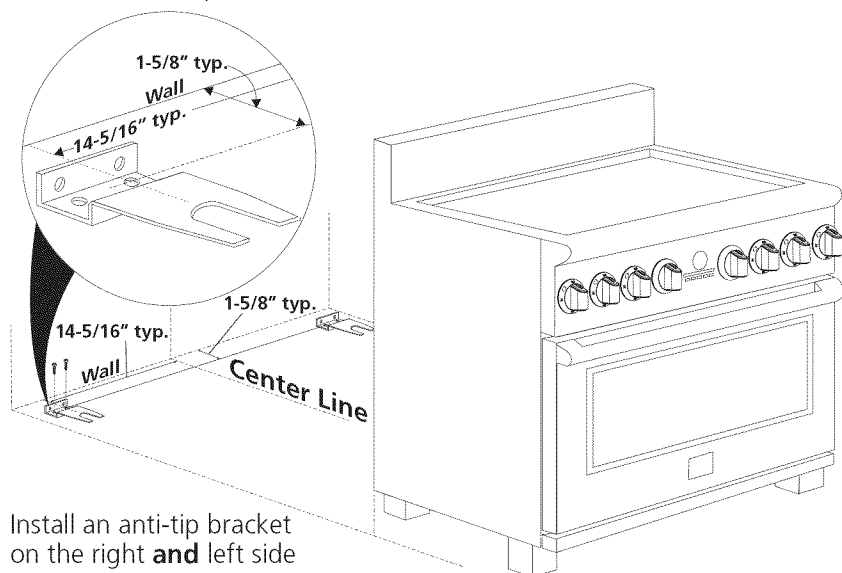

Figure 17
3. Unfold paper template and place it flat on the floor with the back and side edges positioned exactly where the back and sides of range will be located when installed. (Use the diagram in figure 17 to locate bracket if template is not available.)
5. Remove template and place bracket on floor (see figure 17). Line up holes in bracket with marks on floor and attach the bracket using the screws provided. Brackets must be secured to solid floor. If attaching to concrete floor, first drill 3/16" (4.8 mm) dia. pilot holes using a masonry drill bit.